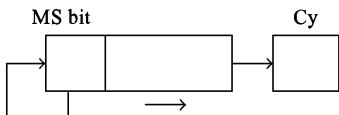

Fig. 27.8
**SRA instruction:** SRA stands for ‘shift right arithmetic’. It shifts all the bits to the right by one position. The LS bit that comes out is moved to Cy flag. In the vacancy created at the MS bit position, the earlier MS bit value is retained. The effect of the execution of SRA instruction is indicated in Fig. 27.8.